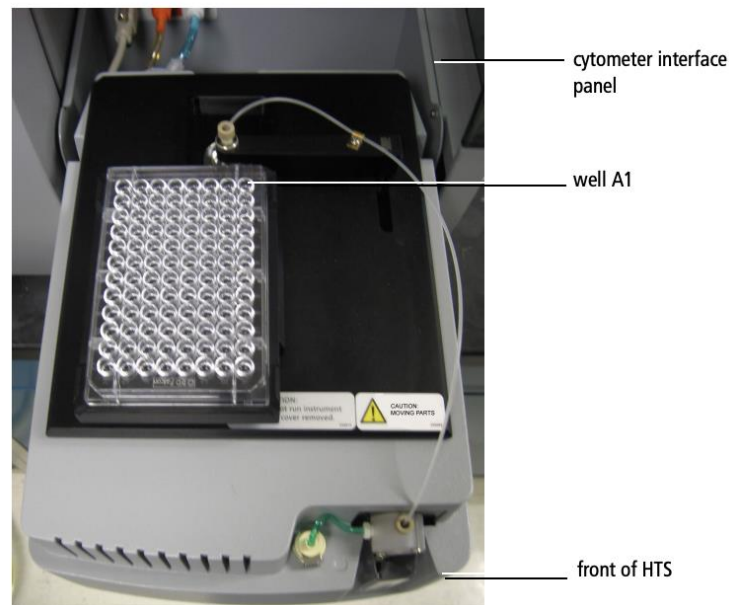

Figure 3 - Plate oriented and loaded onto the HTS
5. Load the plate in the HTS plate stage and close both the HTS doors. Well A1 should go on the back-right corner of the plate stage (see **Figure 3**).
6. Load the plate on the HTS plate stage. Well A1 should go on the back-right corner of the plate stage (see **Figure 3**). Close both HTS doors.